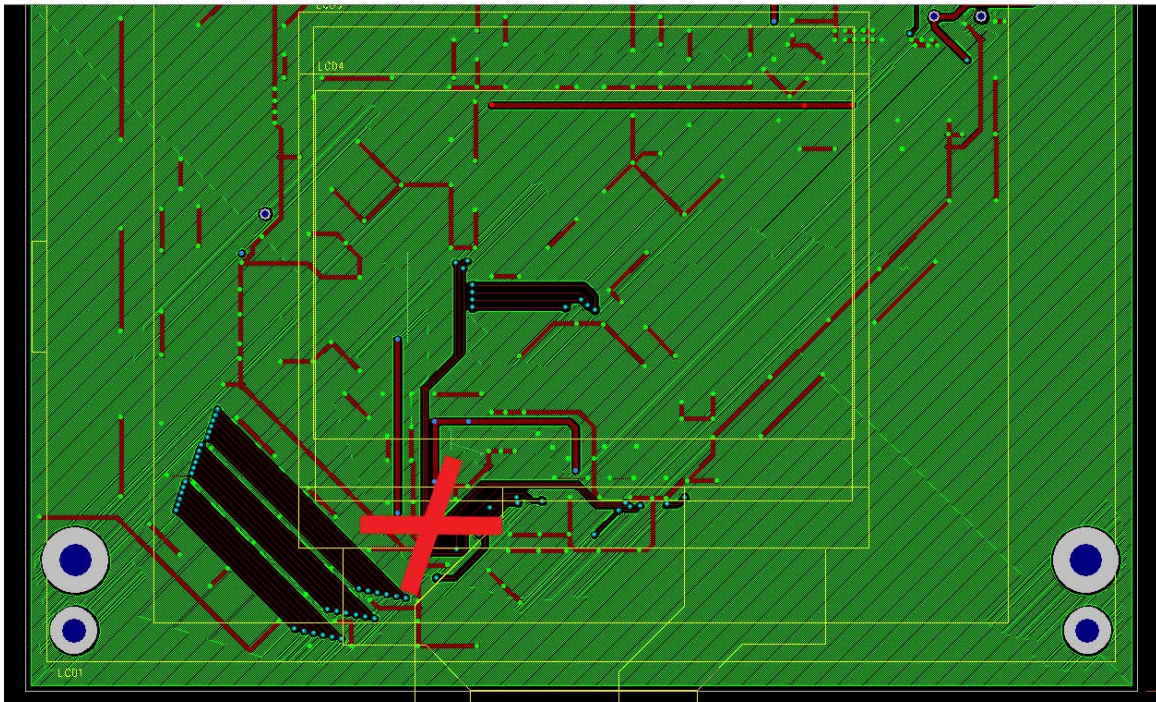

Figure 1 General Area of Cut (LCDC 3-5 REV1 TOP Side)
1. Cut EXT\_MISO trace between J4.45 and J10.50. The cut is made on the TOP side of the PCB. Figure 1 shows the general area of the cut and Figure 2 shows a detail of the cut.